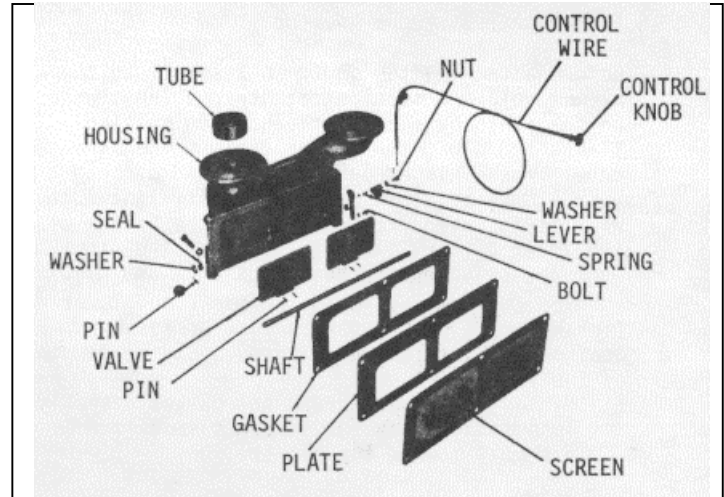

Fig. 2. Air Shutdown Housing Mounting and Bolt Location
- (2) Refer to Fig. 2 and mount the air shutdown housing together with the striker plate gasket and striker plate on the blower with bolts and lockwashers and tighten the bolts to 16-20 ft-lbs (22-27 Nm) torque.
Note: The 3/8"-16 x 3-1/4" bolt and the 3/8"-16 x 2" bolt must be installed as shown in Fig. 2. The four 1-5/8" bolts are installed in the four corner bosses of the housing.